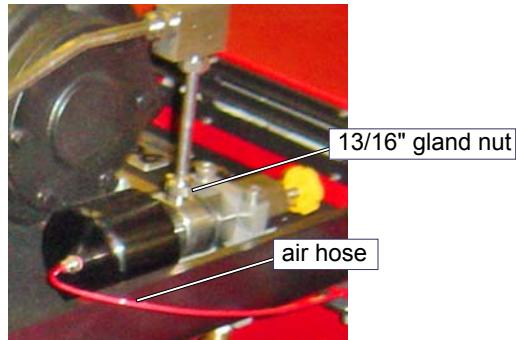

Figure 7-3
5. Disconnect the nipple from the ADO by unscrewing the gland nut on the high-pressure tubing (Figure 7-3) using the 13/16" open-end wrench.